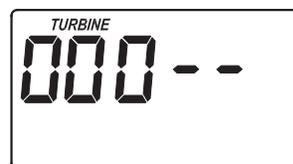

FIG. 17
1. Press and hold the PROGRAM button for a few seconds, until the "000--" screen appears, as shown in Figure 17.